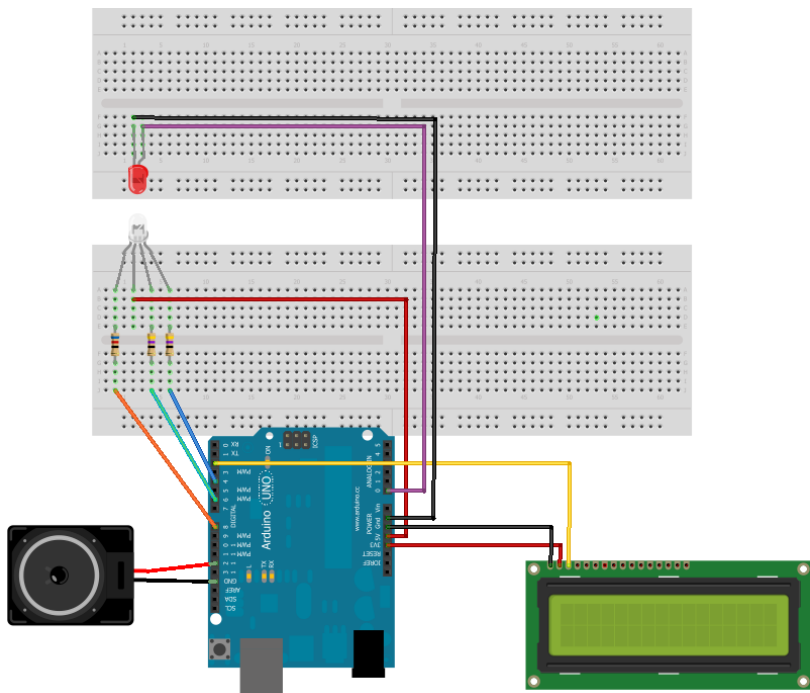

Figure 4-5. Step five.
6. **Connect the LED.** Hook up the anode to Arduino analog pin 0, and the cathode to GND (Figure 4-5).